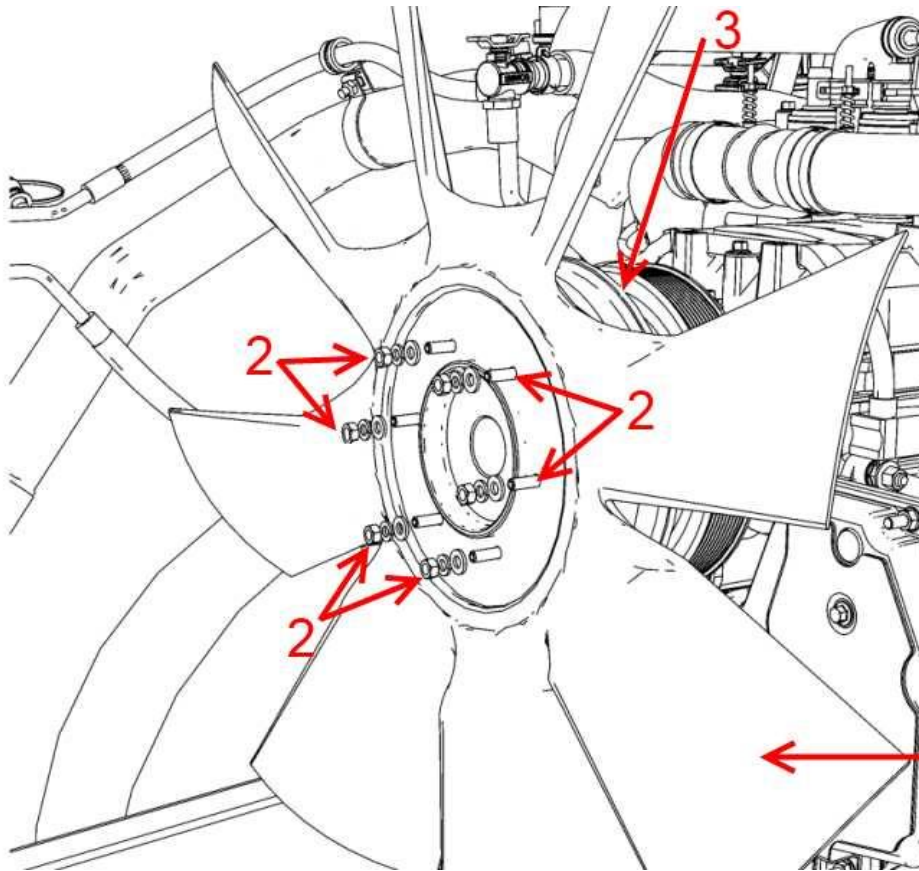

**Figure 17: EGR Outlet Cover, Bolts and Tubes**
11. Install the front cover, noting the location of the stud bolt in **Figure 17**.
13. Install the four bolts for the EGR outlet tubes, using new gaskets from the kit (**Figure 17**, Item 1). If the clamps were loosened and the hard tubes pulled out of the hoses, reinsert and tighten.
14. Install the two engine harness bracket bolts (**Figure 17**, Item 2).